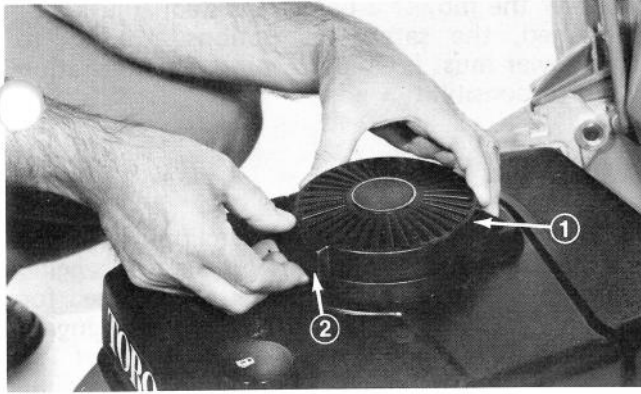

Figure 14
2. Push against back of hinged cover while lifting up on front of cover (Fig. 14) to gain access to the auxiliary starting pulley on top of engine.